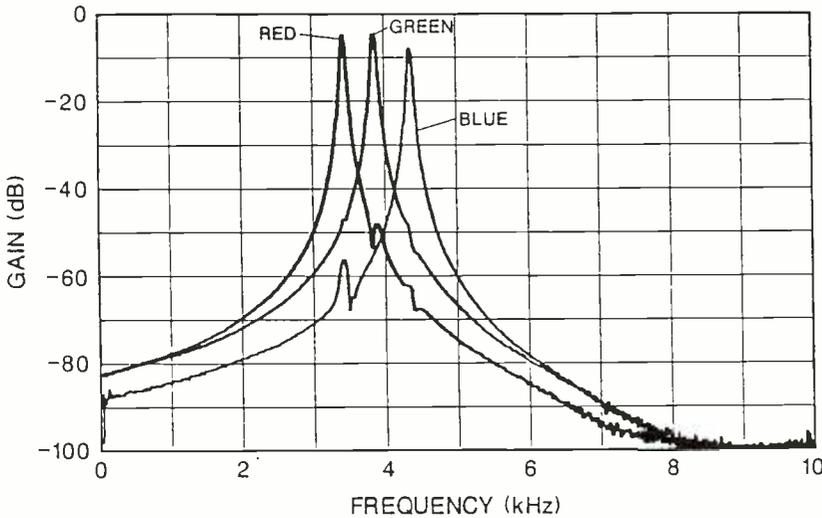

Figure 3. Amplitude response for the three band-pass filters in the decoder vs. the effective input signal frequency.
3. The level of the audio signal in the notch frequency band is compared to the level of the signal in the sidebands, at 3,300Hz and 4,300Hz (Figure 3). For the decoder to detect and indicate the encoded signal, the notch band level must be lower than the level of the lower sideband.